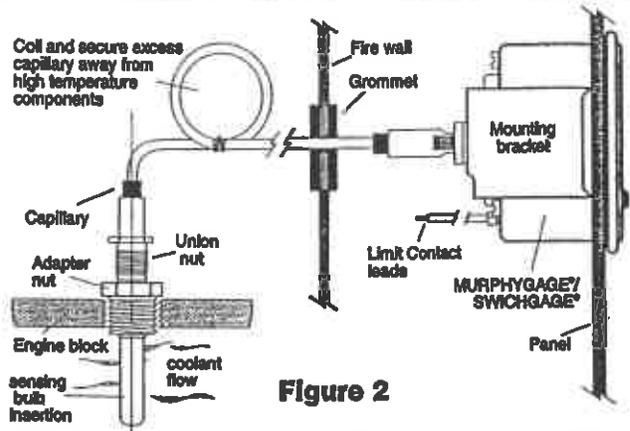

Figure 2
5. Place the sensing bulb into the adapter nut and observe that the sensing bulb does not "bottom" in the water jacket nor are there other obstructions in the water jacket opening. Secure sensing bulb into the adapter nut with the 5/8-18 union nut. See Figure 2.